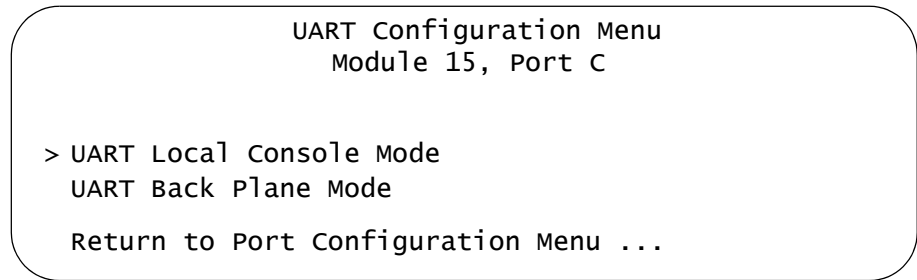

Figure 84. UART Configuration Menu
4. From the TDM Management Menu, select **UART Configurations** to display the UART Configuration Menu, shown in Figure 84.